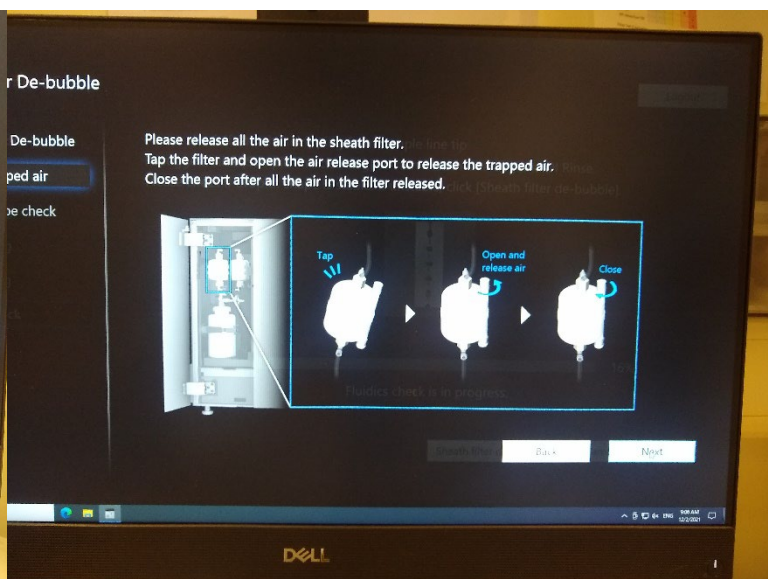
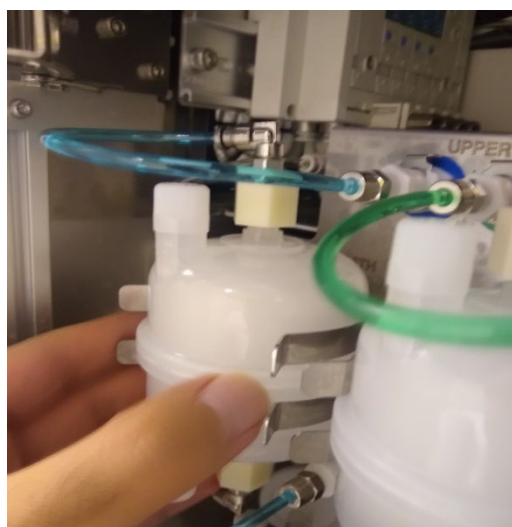

Figure 19
Figure 20
17. Release trapped air in the sheath filter. There is a bug in the software so the instructions (Figure 19) appear only after you finish the program. When the computer runs the debubbling program, it increases the pressure to 40psi (usually the pressure is at 20psi). When the pressure is around 40psi, pull out the sheath filter (small bottle connected to the blue line on the left side of the machine; Figure 20), tap the top of the filter with your hand, and open the white valve a little bit so that the trapped air flows out. In doing so, there will also be a bit of liquid that will flow out. Close the valve, dry off the filter, and lock it back in its place.